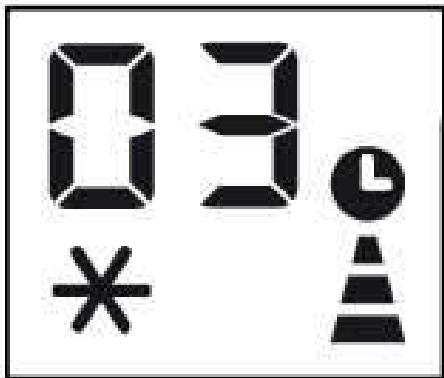

Fig. 3
- Press the button, the screen will display 1~24 hours, and the symbol and symbol and symbol are flash together.(Fig 3)
symbol and symbol and symbol are flash together.(Fig 3)